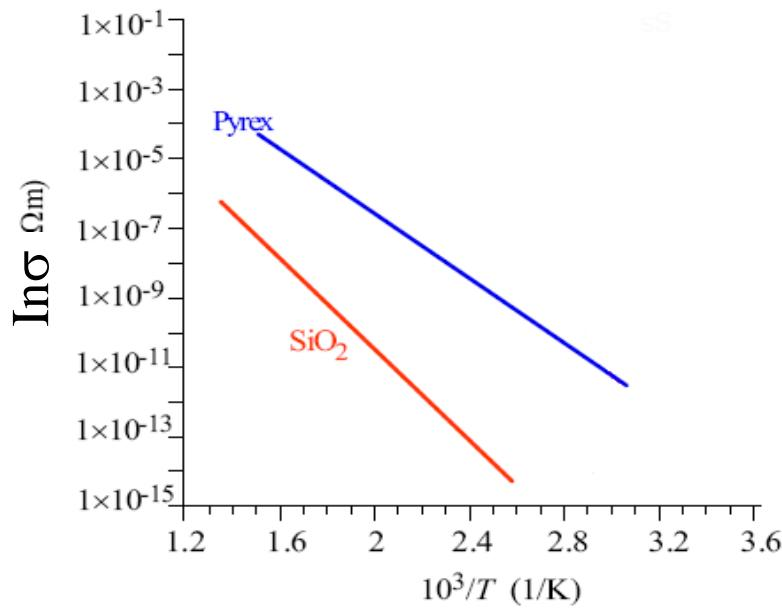

Figure 1 / Rajah 1
1. [a] The resistivity values of SiO_2 and Pyrex were obtained from impedance plane plots and are summarized in Arrhenius conductivity format in Figure 1. Calculate the activation energy for SiO_2 and Pyrex. Given Boltzman constant, $k=1.3806 \times 10^{-23} \text{ JK}^{-1}$.